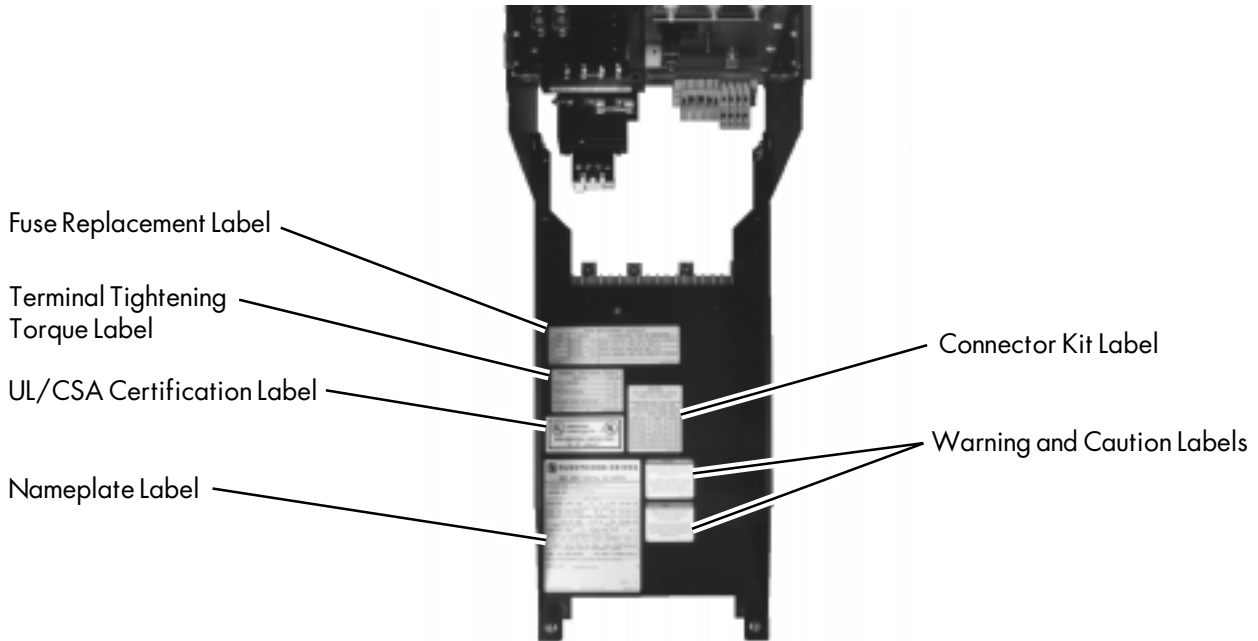
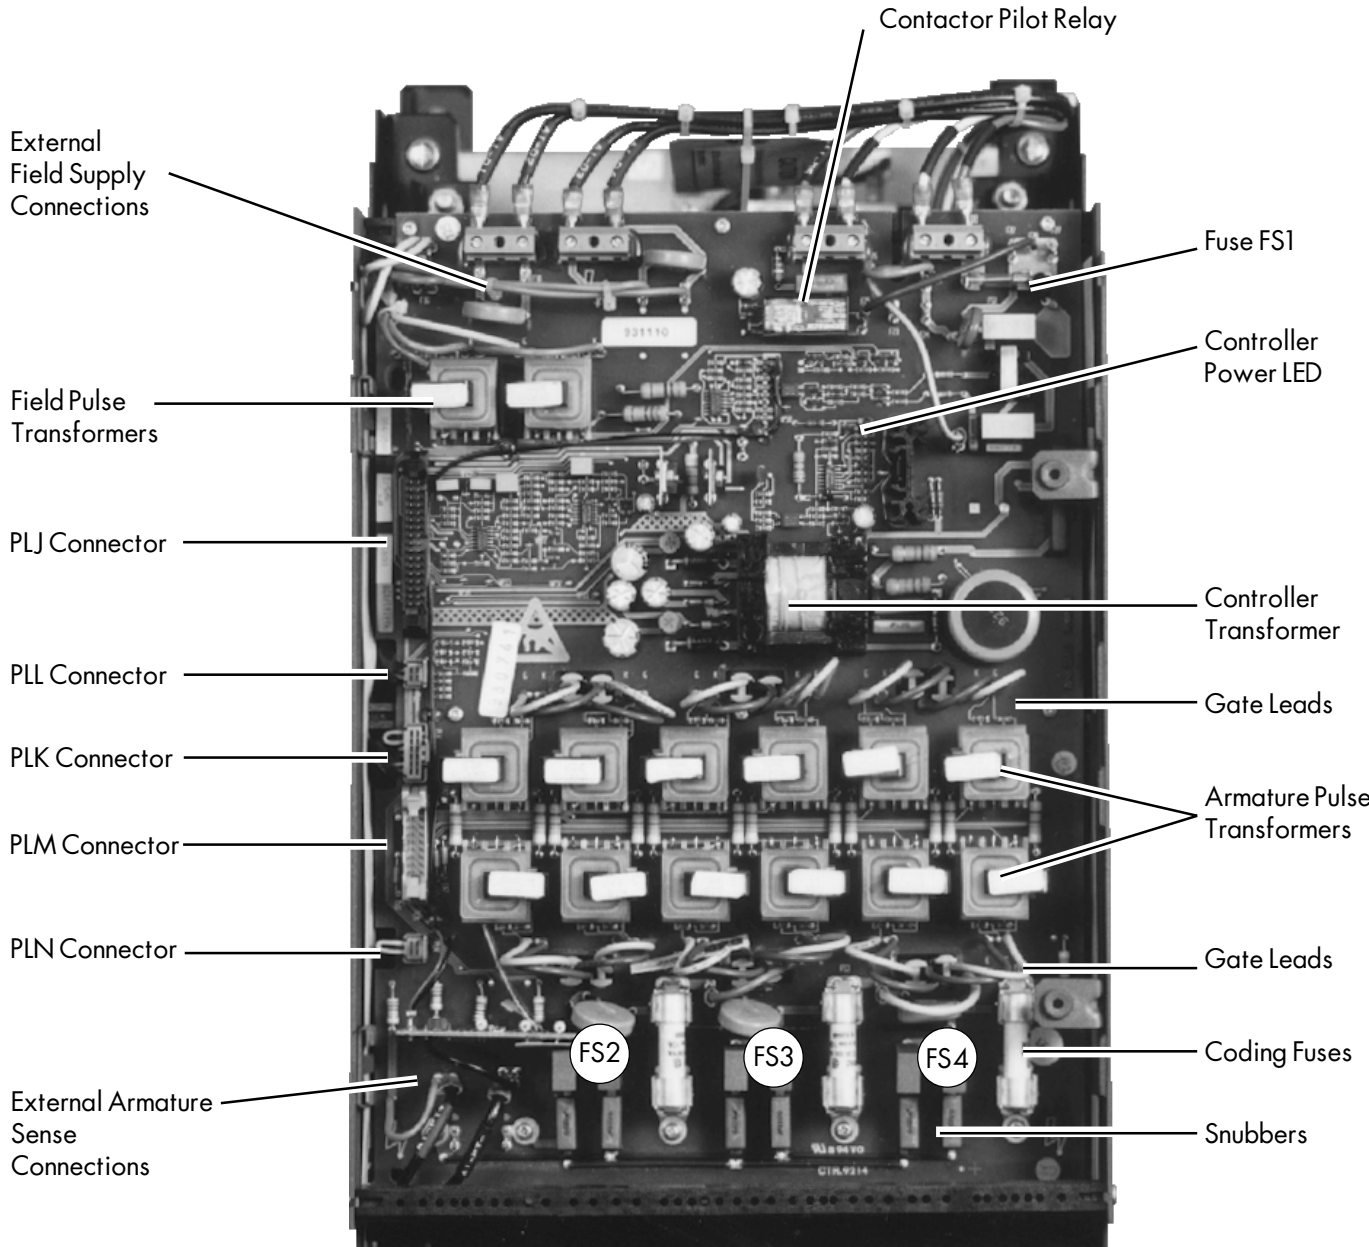
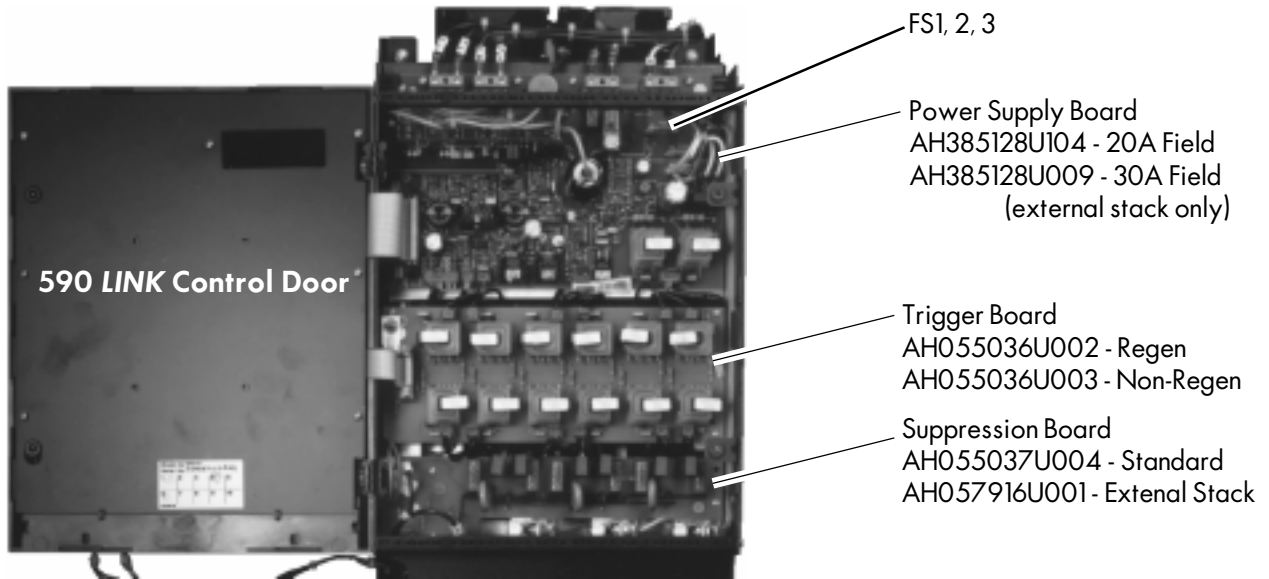
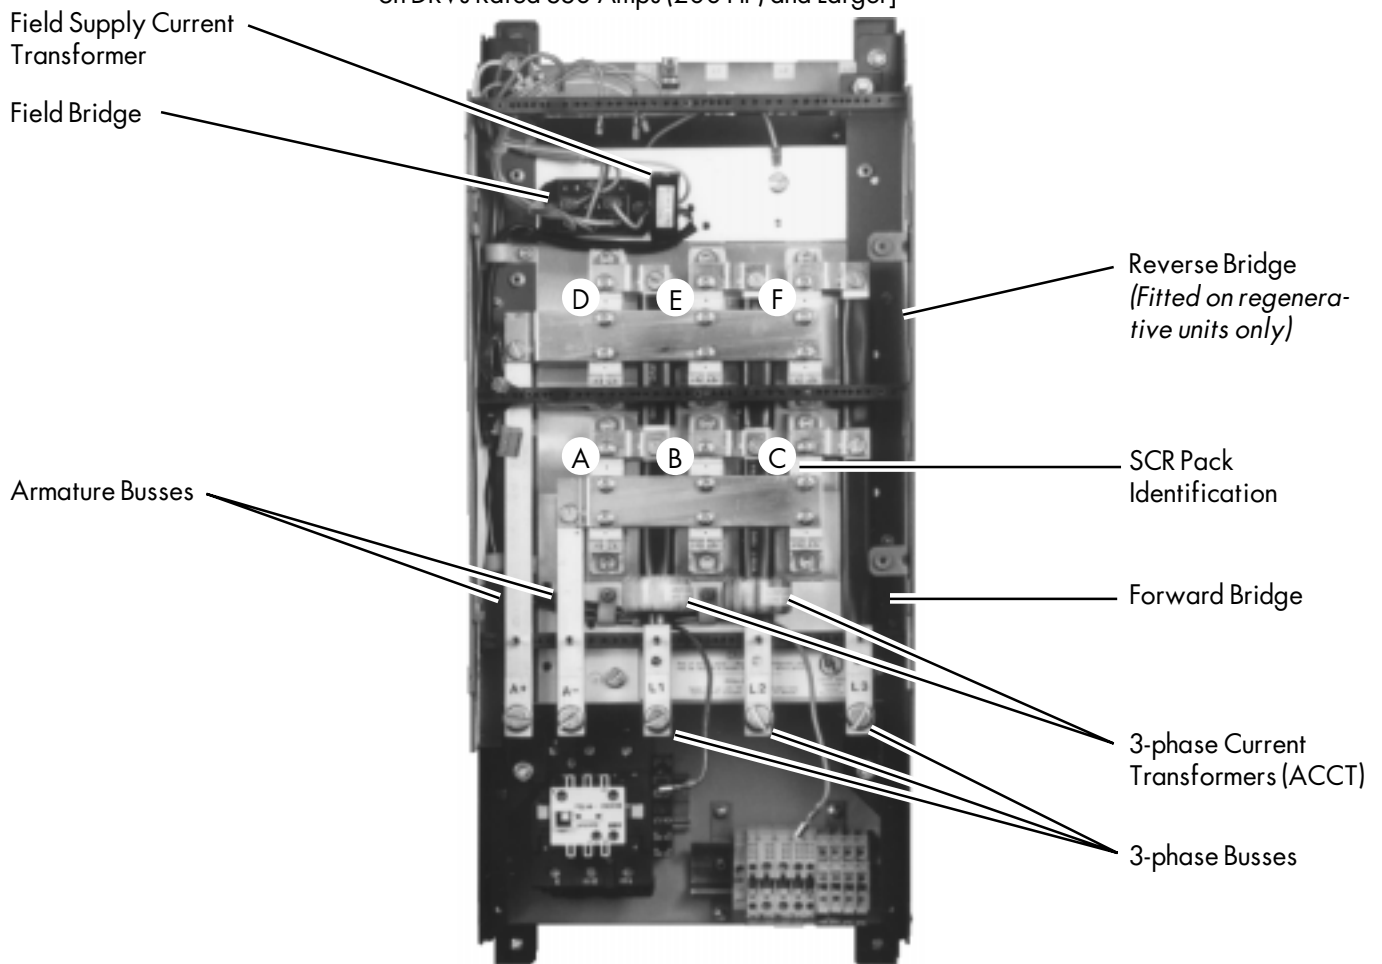

Figure 2.4 - Label Location On Controller Mounting Plate (30 through 100 HP Units)
Figure 2.5 - Power Supply Board - AH385851U002 - Regen
Figure 2.6 - Three-part Power Supply Drives [Used on DRVs Rated 330 Amps (200 HP) and Larger]
Figure 2.7 - SCRs and Power Busses (Power Supply Board Removed)
Figures 2.3, 2.4, 2.5, and 2.6 identify the parts contained in 590 DRV *LINK* drives rated 7.5 through 100 HP. These parts are discussed in the succeeding chapters. Figure 2.3 shows the fuses, transformer, and contactor in the power chassis. Figure 2.4 shows the location of the labels on the back side of the controller mounting bracket. Figure 2.5 identifies the components on the controller's power supply board. Figure 2.6 shows a controller with a 3-part power supply board. This configuration is used in all 330 amps (200 HP at 500 VDC) and larger DRVs. Figure 2.7 shows the inside of the 590 controller after the power supply board is removed.
The fuse replacement label for 7.5 through 100 HP models is located on the back side of the controller mounting panel (see Figure 2.4). It is visible when the top section of the DRV (including the controller) is lowered for access to the fuses and drive terminations. To access this area, loosen the two ¼-turn screws at the top of the drive section, just above the controller. Gently lower the top section until it comes to rest. If working on a bench, insert a spare bolt in each of the hinge slots at the base of the top section to provide protection against the drive closing unexpectedly. Refer to this label when replacing fuses and make sure the replacement fuses meet the label requirements.
**NOTE.** Figure 2.4 shows a 7.5 to 30 HP DRV chassis mounted to a back panel and opened to display the labels. The unit is oriented so that the operator is looking down at the labels. Wiring has been removed for clarity.
The terminal tightening torque label (see Figure 2.4) for 7.5 through 100 HP models is located below the fuse replacement label. Refer to it when making electrical connections to avoid overtighten the terminals.
The connector kit label (see Figure 2.4) is located next to the terminal tightening torque label. It lists the catalog numbers of connector kits used for connecting power wires to the drive. It also lists the appropriate cable rating for each size power terminal.